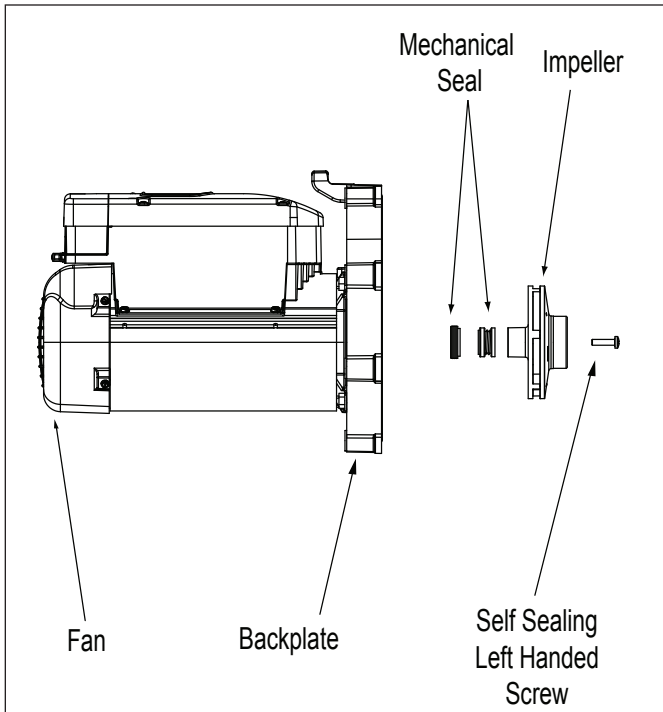

Figure 9. Remove the Impeller
8. Hold the exposed motor shaft with a ½" wide flat blade screw driver while removing the impeller center screw. Use a No. 3 Phillips screwdriver and turn the left-hand threaded screw clockwise to loosen it. See Figure 9.